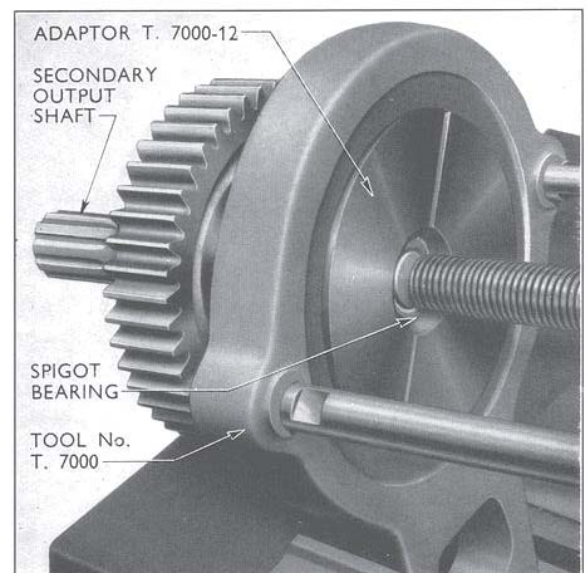

Fig. 12
- (i) Assemble split adaptors T.7000-12 around the front bearing inner race and place the assembly in Main Tool T.7000. (See Fig. 12.) Apply pressure to the front end of the shaft by tightening the centre screw of the tool and withdraw the bearing inner race.